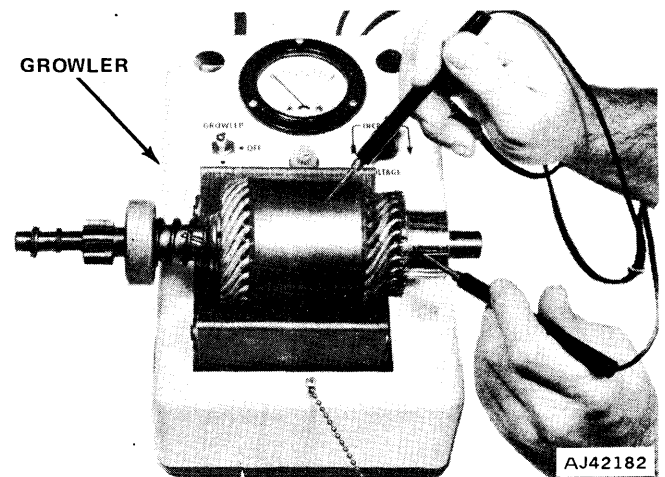

Fig. 3-42 Armature Ground Test
(1) Place armature in growler jaws and turn power switch to TEST position (fig. 3-42).
(2) Touch one test lead to armature core, touch other lead to each commutator bar one at a time and observe the test light. The test light should not glow. If test light glows on any bar, the armature is grounded and must be replaced.